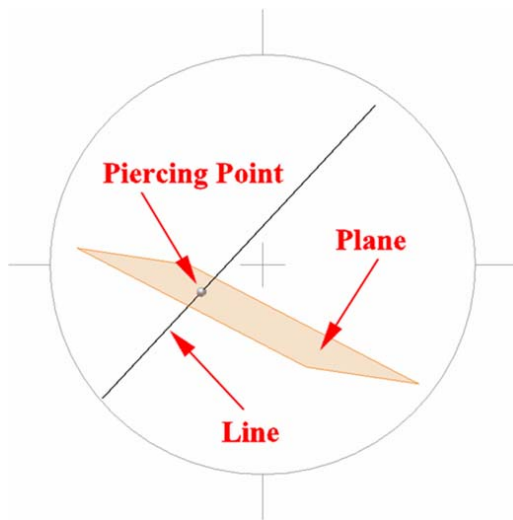

Figure 1-1G: A piercing point.
- **Piercing Points:** if a straight line is not parallel to a plane, it must intersect that plane in a single point called a piercing point (*Figure 1-1G*).